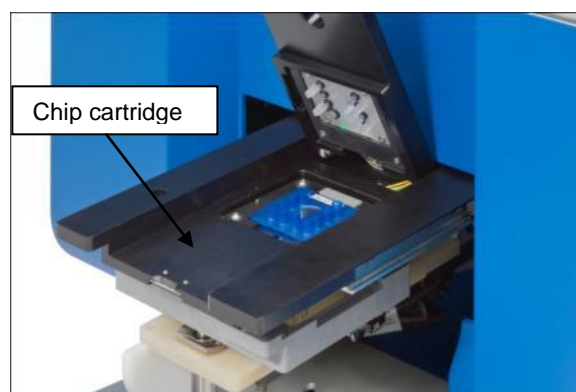

Figure 5. LabChip Dx chip cartridge.
2. Release the cartridge latch, remove chip from the storage container and insert the chip into the cartridge. Refasten the latch and push the cartridge into the instrument. See **Figure 5**.